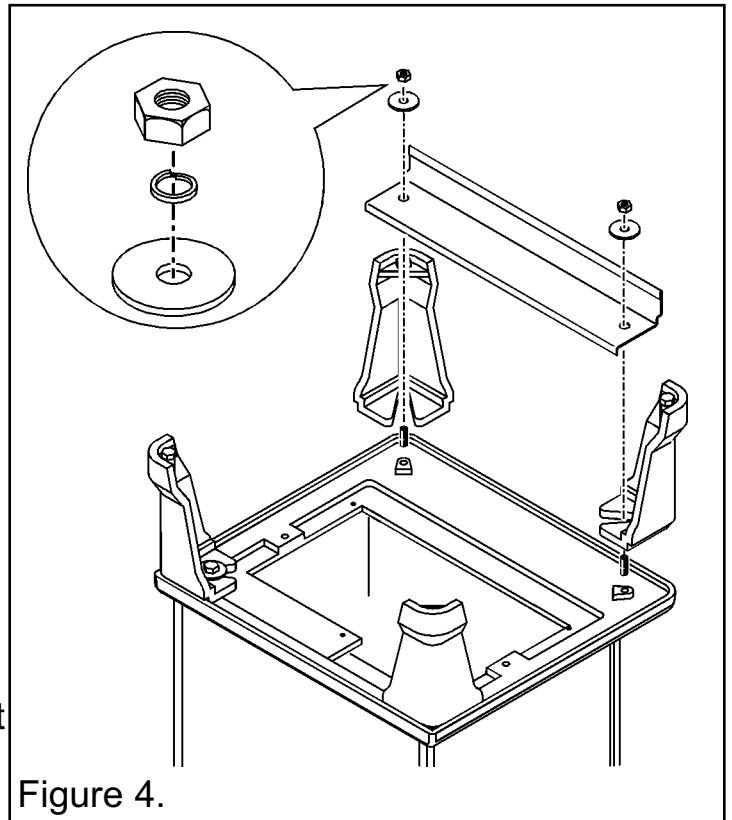

Figure 4.
5.1 Legs and front cover (See figure 4).